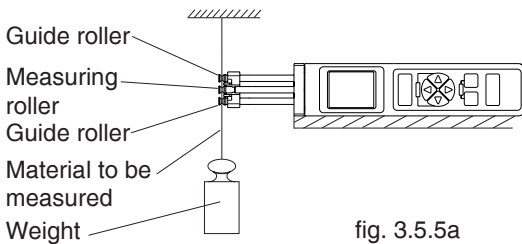

fig. 3.5.5a
- Prepare the measuring setup as shown in Fig. 3.5.5a.